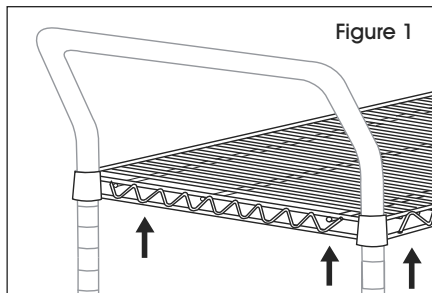

Figure 1
1. Slide top shelf up the posts one end at a time, handles facing out. (See Figure 1)